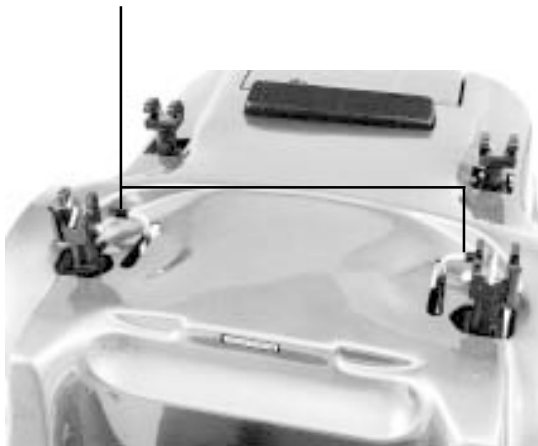

Figure 6. Drive Disengaged
For your convenience, your Jazzy 1104 is equipped with two freewheel levers. See figures 6 and 7. These levers allow you to disengage the drive motors and maneuver the chair manually.
1. Turn the freewheel levers outward to disengage the drive motors. See figure 6.